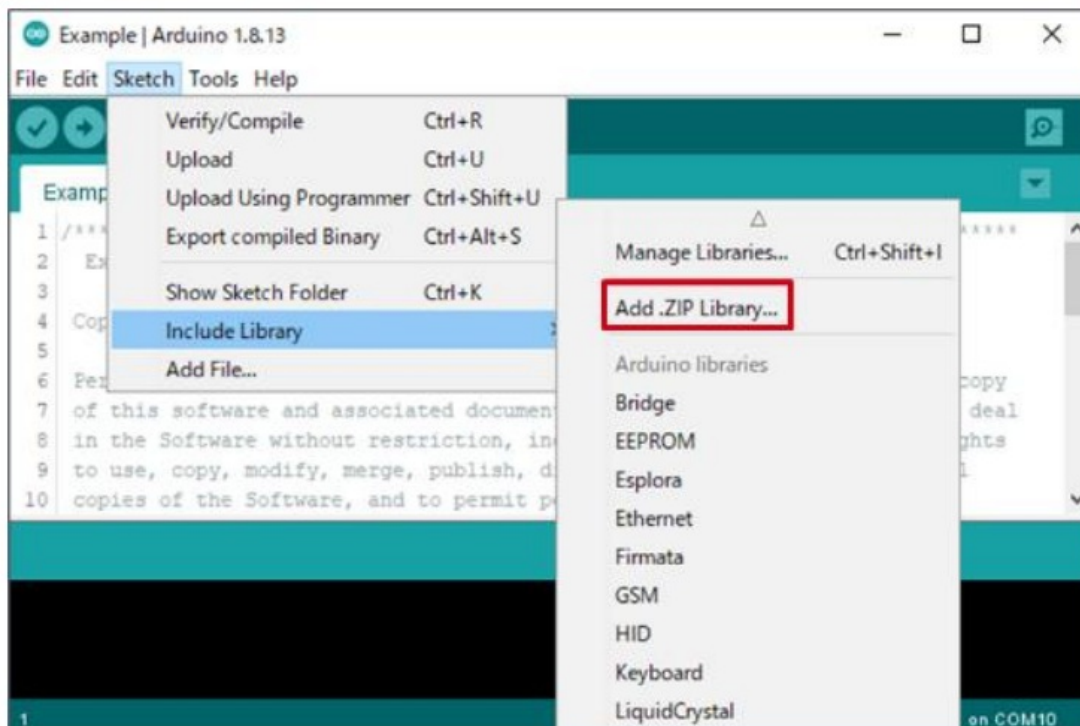

Figure 3. Software Installation
7. Select [Sketch] -> [Include Library] -> [Add.ZIP library...], then BM1390GLV Software. (Figure 3)